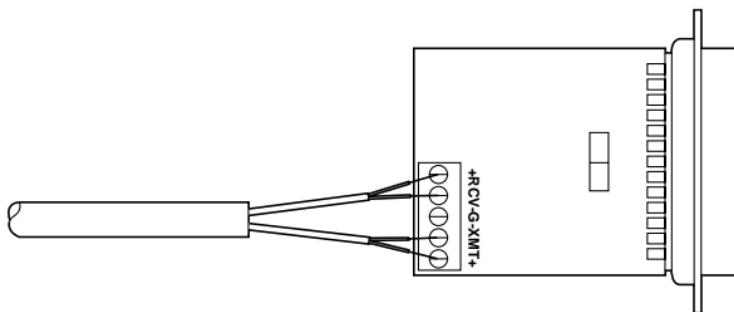

Figure 4-7. Terminal Block with Wires Connected.
7. When you finish connecting the wires to the terminal block, the assembly should resemble **Figure 4-7.**